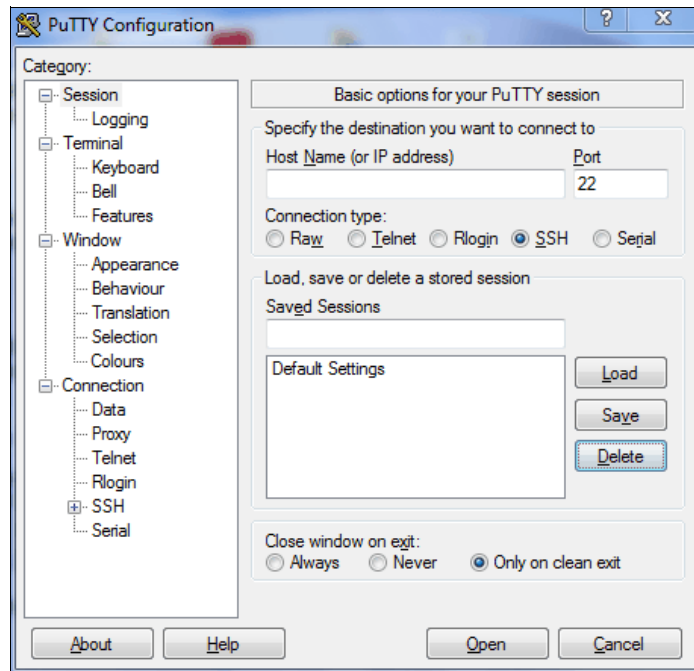

Figure A-9 PuTTY
1. Start PuTTY. The PuTTY Configuration window opens (Figure A-9).